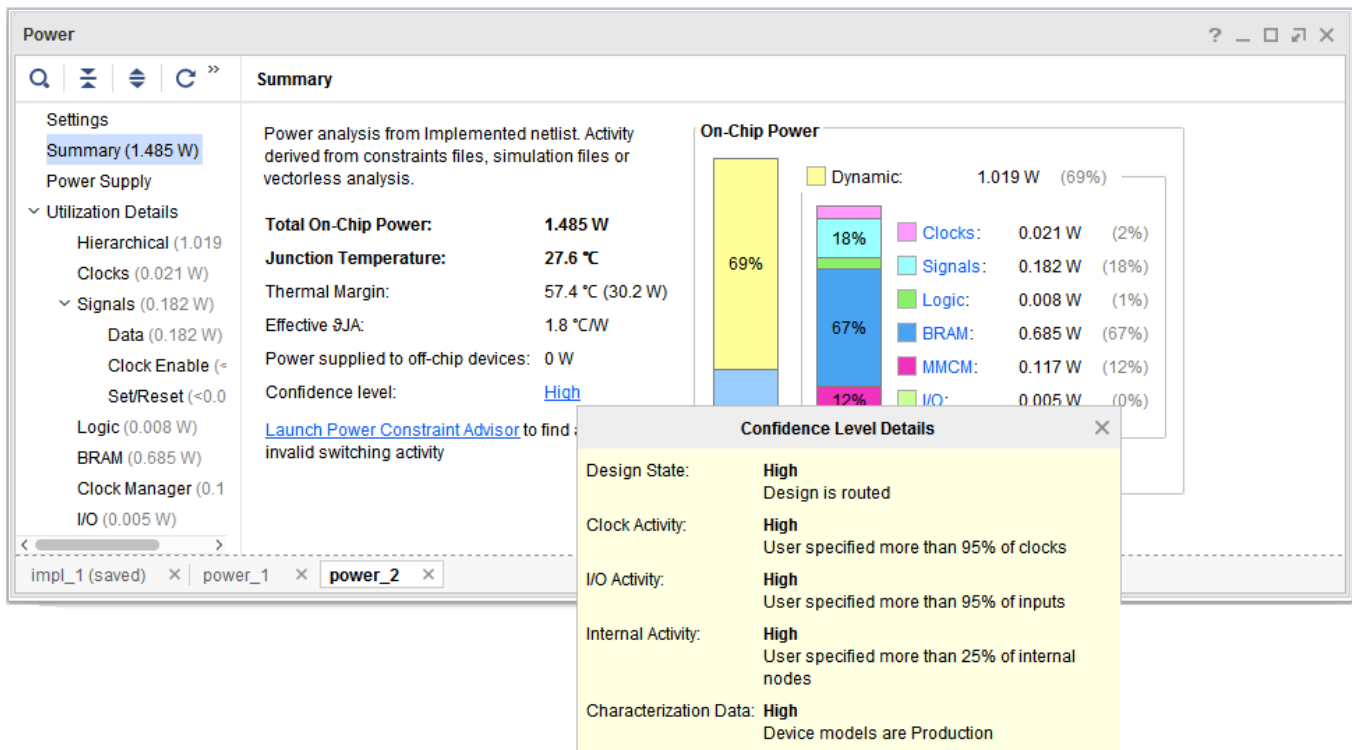

Figure 40: Confidence Level for Power Analysis with SAIF Input (power_2)
- In the **Summary** view of the **power_2** report (the report generated by the analysis for which you specified a SAIF file as input), click on the **Confidence level (High in Figure 40)**.